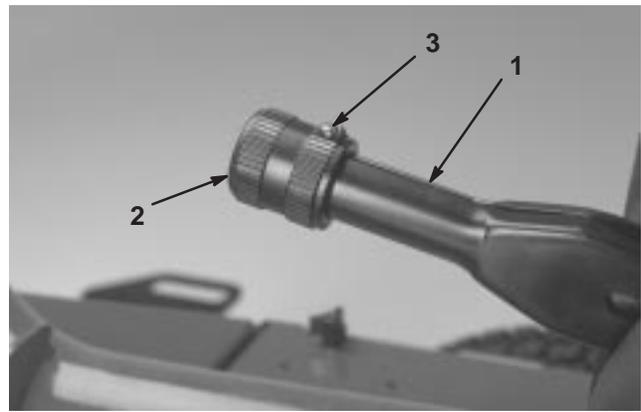

Figure 58
- Loosen the set screw securing the knob to the parking brake lever (Fig. 58).